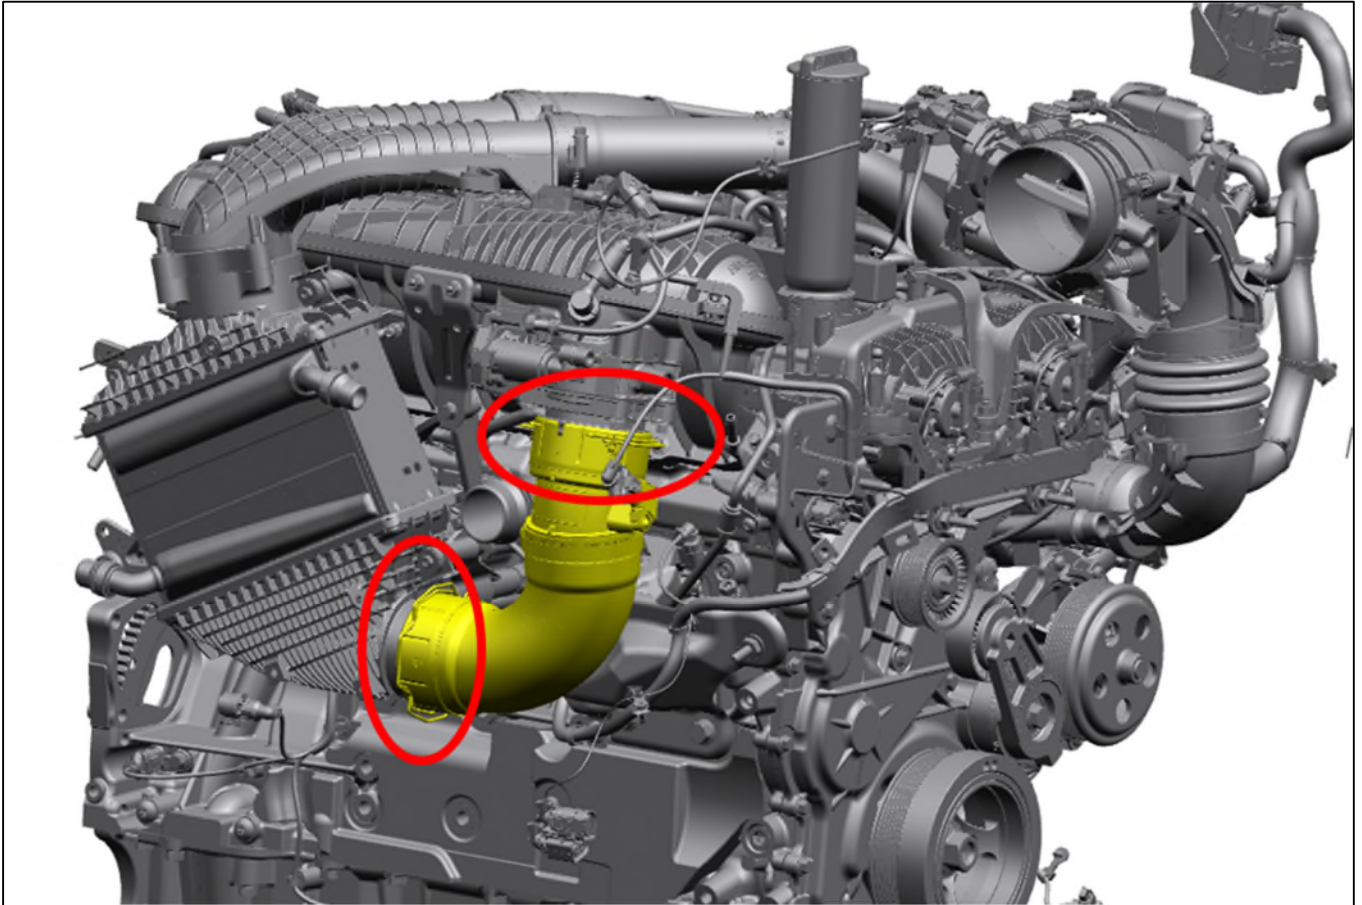

Fig. 9 CAC Cold Duct Location on Engine Assembly
- e) Check the CAC Cold duct for proper connections/missing or damaged gaskets (locations shown by red circles in Fig. 9).